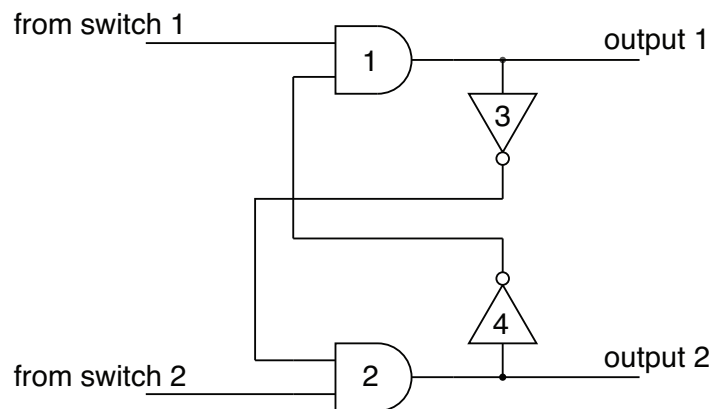

Fig. 17
- (ii) Fig. 17 shows part of the circuit diagram for the system.